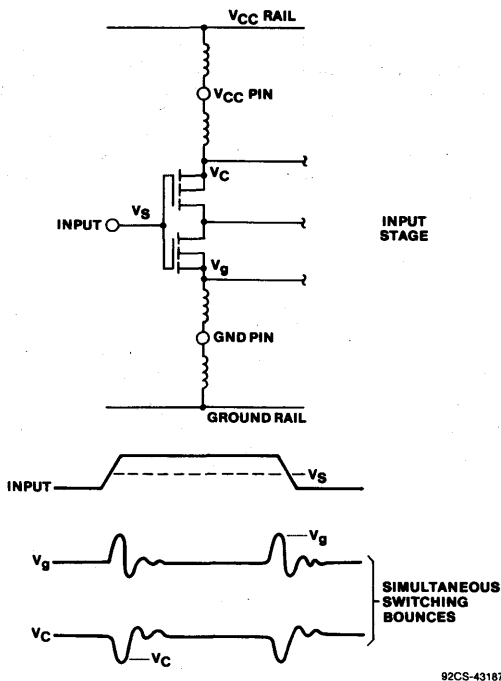

Fig. 37 - Input circuit and simultaneous switching bounces that reduce noise immunity.
Simultaneous switching transients affect the maximum input t_r , t_f . Fig. 37 illustrates a worst case but feasible condition for either a hex inverter type (04 or 05) or a hex inverting Schmitt-Trigger type (14). Using a printed circuit board designed for a ground-bounce measurement, five of six outputs are switched simultaneously causing the internal power or ground point bounce as discussed previously under the heading **Simultaneous Switching Transients**.
Examination of the input stage and waveforms in Fig. 37 shows clearly that typical noise immunity at the input is significantly reduced during the presence of the ground or Vcc bounce time as quantified below: